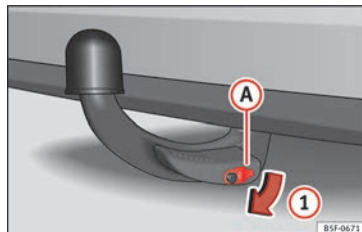

Fig. 230 Removing the lock cover.
- Remove cover ① from the lock in the direction of arrow ③ »» Fig. 230.